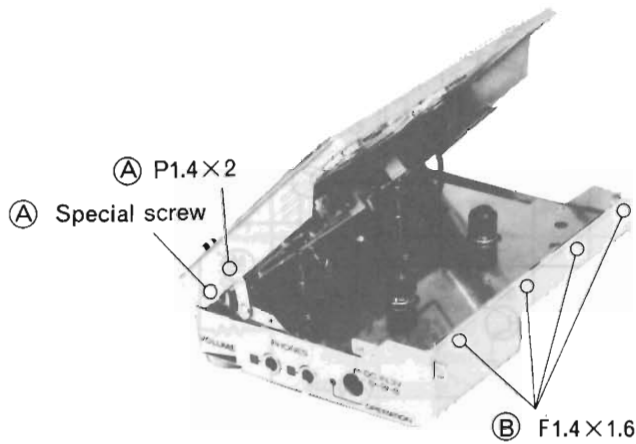

Fig. 1
Remove 10 fixing screws (B) shown in Figs. 1, 3.